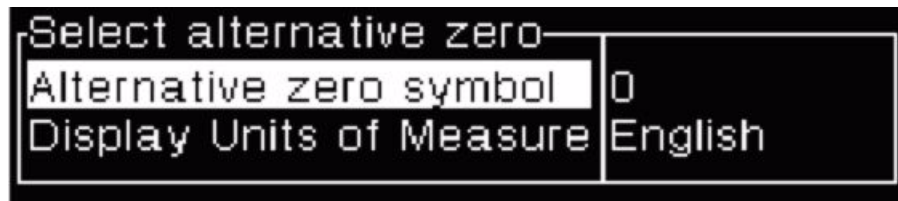

Figure 3-7: Alternative Zero Symbol Screen
- 3 Make a selection using the left or right arrow key and press Enter (Figure 3-7).